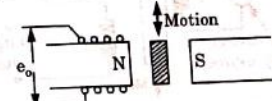

Fig. 5.13.3. Eddy current transducer.
- Fig. 5.13.3 shows an eddy-current-type transducer. A non-ferrous plate moves in a direction perpendicular to the lines of flux of a magnet. Eddy currents are generated in the plate. These are proportional to the velocity of the plate. Since the gap remains constant, the transducer has linear characteristics.